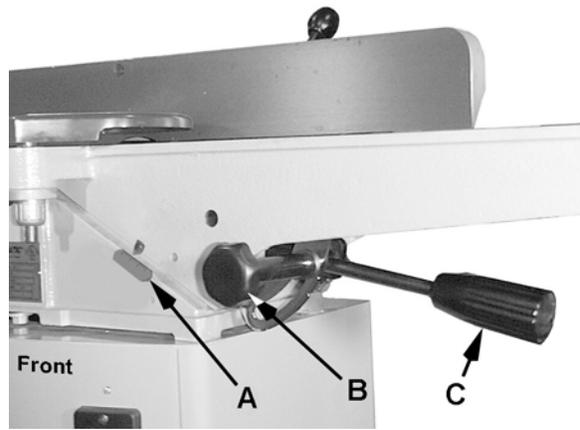
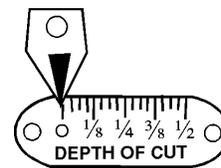

Figure 14
Figure 15
Refer to Figures 14 – 16.
1. Loosen the rear *thumb screw* (D) and the *lock knob* (B).
2. **Raise or lower** the *height adjustment handle* (C) until the *scale* (A, Fig. 14 and Figure 15) reads approximately the desired depth of cut.
Helpful Hint: Occasionally you will find that you cannot set the coarse adjustment all the way up to 0" or all the way down to 1/2" on the *Depth of Cut* scale (Figure 15) when raising or lowering the handle (C, Fig. 14). When this happens:
With the *lock knob* (B, Fig. 14) unlocked, *rotate* the *height adjustment handle* (C, Fig. 14) a few times, then raise or lower it. Once you are able to reach the 0 or 1/2 setting (Figure 15), you will again be able to swing the handle (C) through the full range.